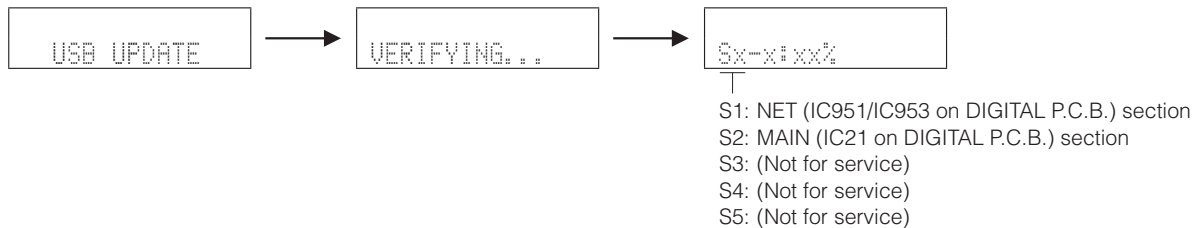

Fig. 2
- 4. The USB UPDATE mode is activated and “USB UPDATE” is displayed. Writing of the firmware starts automatically. (Fig. 2)